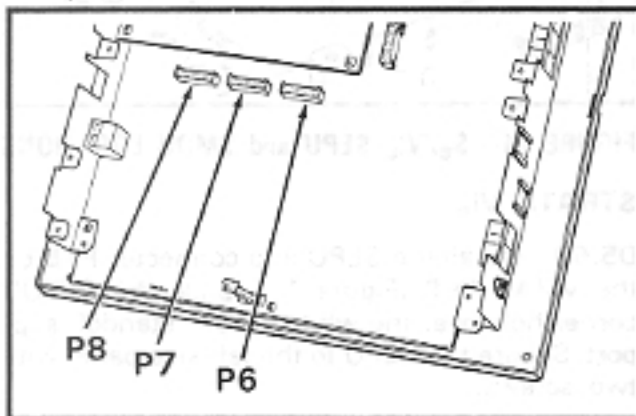

FIGURE 8—VCOU LOCATION
05.23 The VCOU PCB mounts on four 10-pin connectors and one plastic standoff at the bottom of the VMAU PCB (Figure 8). Install the VCOU's three 10-pin connectors into the VMAU's **P6**, **P7** and **P8** connectors. Secure the VCOU to the left and the right side panels with two provided screws on each side.